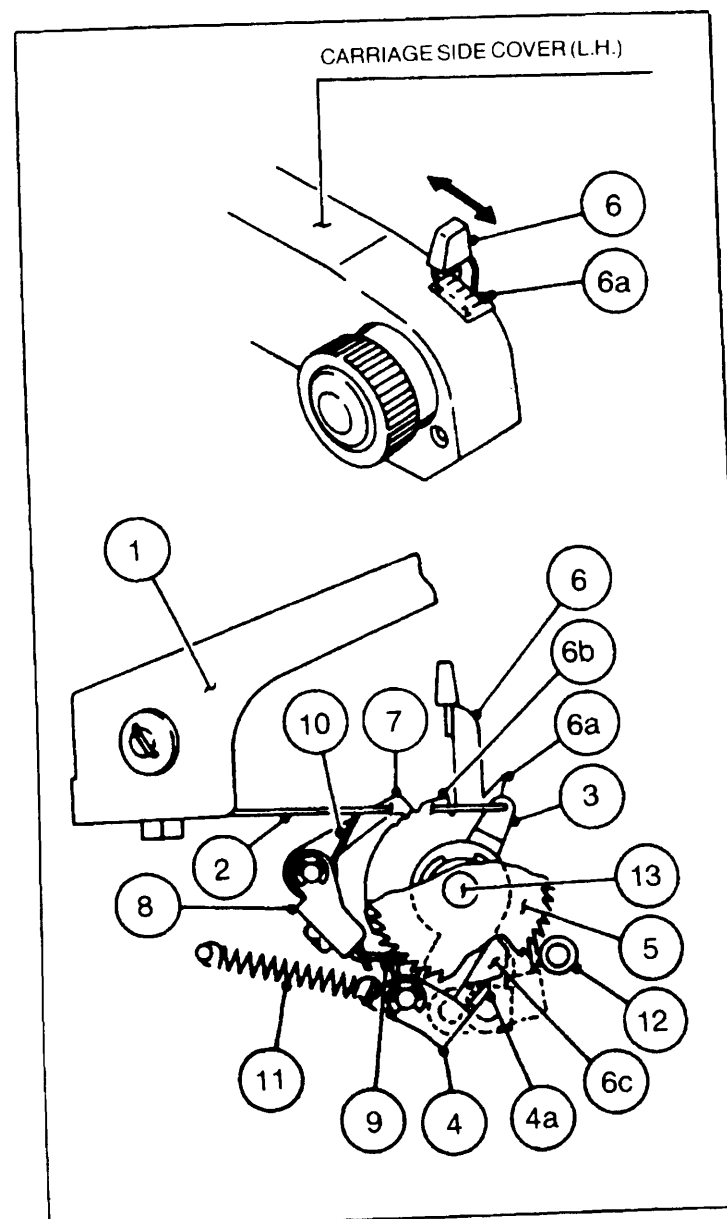

Fig. 2-21. This is the line spacing mechanism for the Olympia Model B-12, taken from the Olympia service manual (courtesy of OLYMPIA USA INC.).
To see another vertical line spacing mechanism, refer to Fig. 2-21. When the line space lever (1) is operated, the feed arm (3) is rotated by the line space link (2). The line space feed pawl (4a) slides along the cam (6c) of the line space selector (6); thus, the feed pawl (4a) is engaged with a tooth of the line space ratchet (5). Since the line space ratchet is integral to the platen, the platen is turned by an amount corresponding to the travel of the pawl as it slides into a ratchet tooth. The line spacing is restricted by the touch of the feed pawl (4), with a stopper pin (12). The line space lever is returned to its home position by a spring (11).